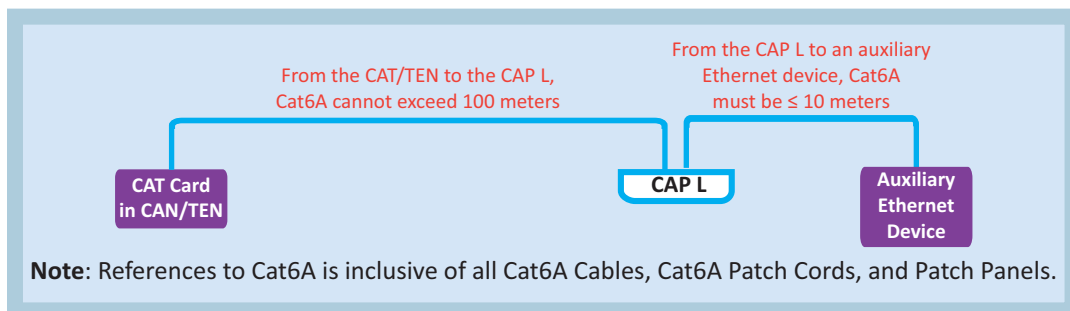

Figure 18. Maximum Cat6A Cable Length between a CAP L and an Ethernet Device
- The maximum Cat6A cable length between the AUX port on the CAP L and an auxiliary Ethernet device is 10 meters, including all Cat6A cables, Cat6A Patch Cords, and Patch Panels, as shown in Figure 18. 24 AWG Cat6A cabling is sufficient for the entire cable run, from the CAN/TEN to the auxiliary Ethernet device connection.